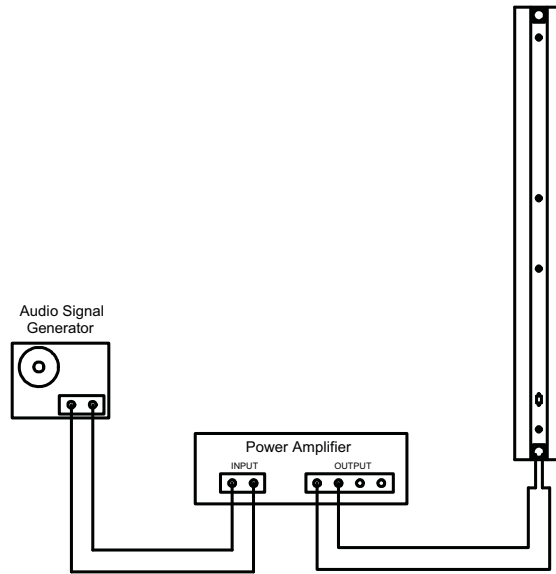

Figure 5. Panaray® MA12 Test Setup Diagram
1.1 Set up the system for test as shown in Figure 5.
4.1 Set up the system for test as shown in Figure 5.